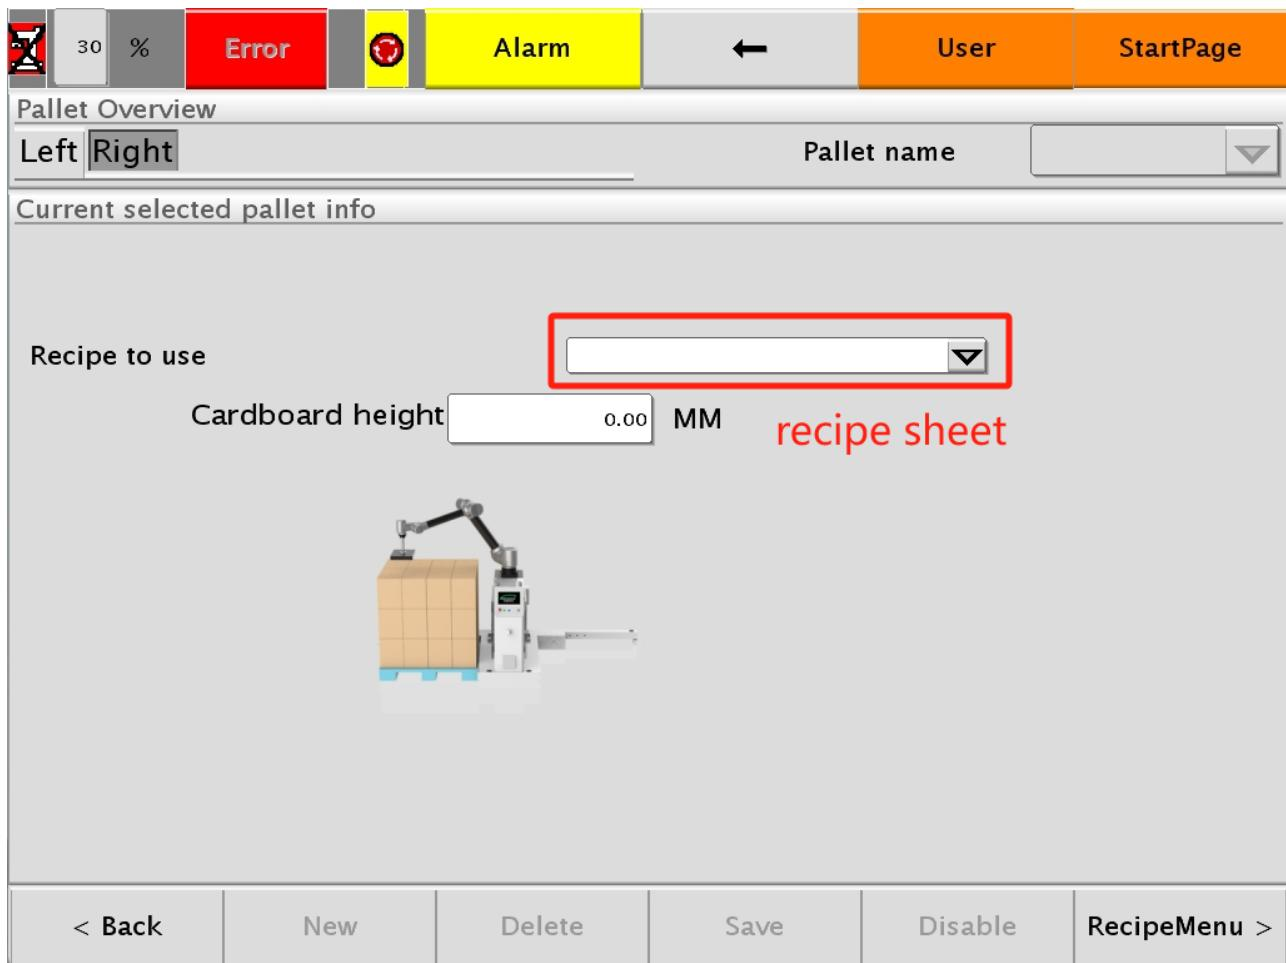

Figure 30
(1) Click "Pallet Setting" in the main interface, and the screen shown in **Figure 30** below will pop up.